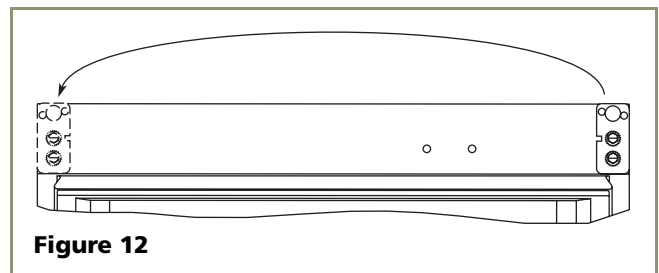

Figure 12
7. With bottom of door facing up, remove pivot plate (2 screws), flip over, and remount on opposite side of door (see **Figure 12**). Be sure notch in plate faces center.